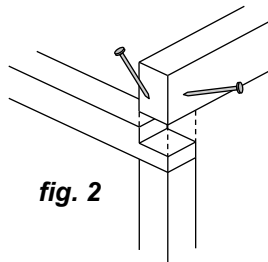

fig. 2
Step 2: Select Back and Front Base Plates 1.140m (Green), Back Top Plate 1.140m (Red) and Front Top Plate (70x45mm). With one End Frame lying on the ground, nail plates to frame, two 75mm nails per joint. Ensure Green joins to Green and Red joins to Red. See (**fig. 2**) for nailing detail on Top Front Plate (70x45mm).